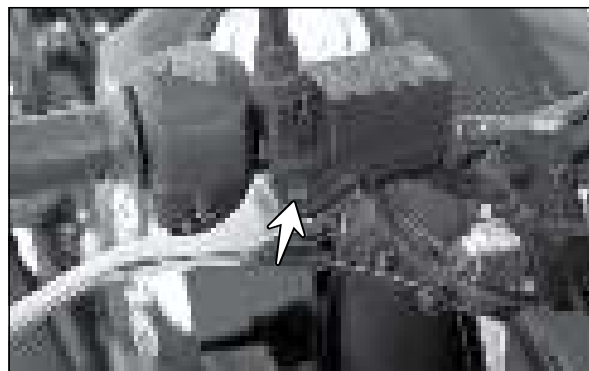

Fig. 6.13
- Take out lever RH (front brake lever) by removing the mounting bolt and flange nut. (Fig. 6.13)